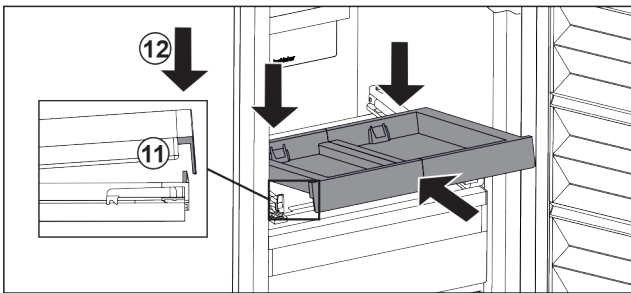

Fig. 88
- ▶ Slide it in at an angle. Make sure that the stop is behind the lug on both sides. Fig. 88 (11)
- ▶ Lower the pull-out board at the front. Fig. 88 (12)